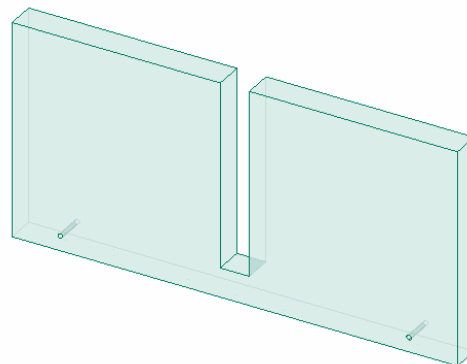

Figure 21. Completed base mounting holes.
40. Select these two holes and use Insert Holes to make them countersink, UNC 8-32, clearance and through the entire part. The fence should now look like figure 21